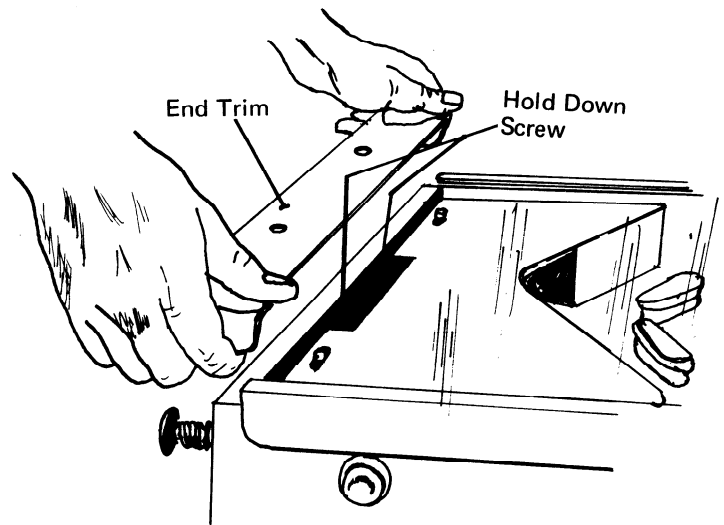

FIGURE 6
1. Remove the two screws from the end trim as shown in Figure 6. Set end trim and the attaching screws aside.
4. Loosen each Playfield hold down screw approximately $\frac{1}{4}$ turn counter-clockwise (See Figure 6).
3. Tighten the two (2) Hold-down screws by turning them approximately $\frac{1}{4}$ turn clockwise. Attempt to lift playfield to insure that the screws are secure.
5. Slide the playfield cover back into the player end of the lower cabinet. (See Figure 6, Page 8).
6. Place end trim back into position and re-install the two screws. (See Figure 6, Page 8).